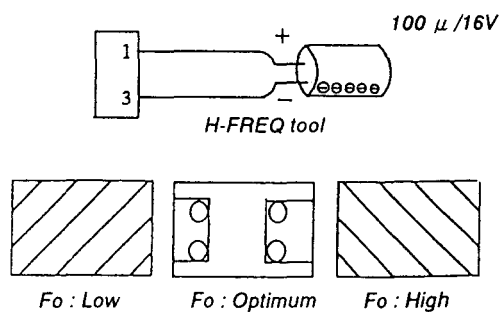

Fig. 1
- Adjust 60H-FREQ so that the diagonal lines on the screen become vertical lines. (Fig. 1)
- Adjust 50H-FREQ so that the diagonal lines on the screen become vertical lines. (Fig. 1)